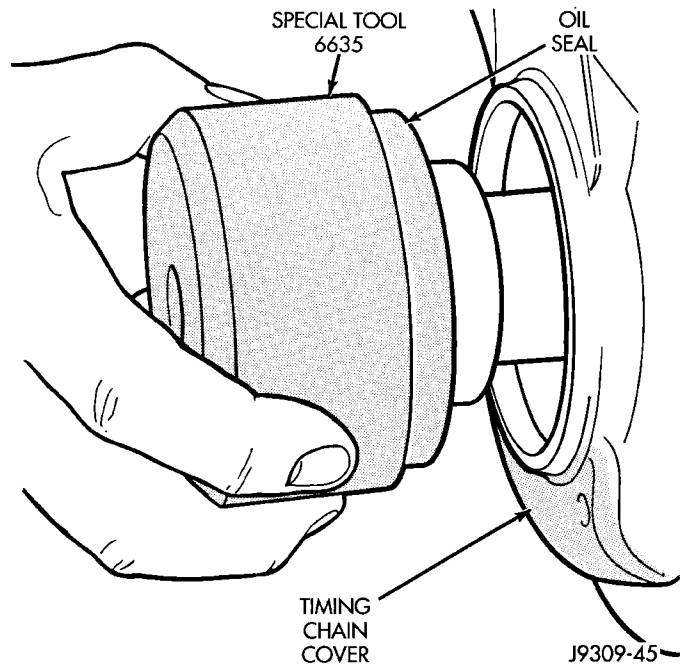

Fig. 43 Position Tool and Seal onto Crankshaft
(6) Position the seal and tool onto the crankshaft (Fig. 43).